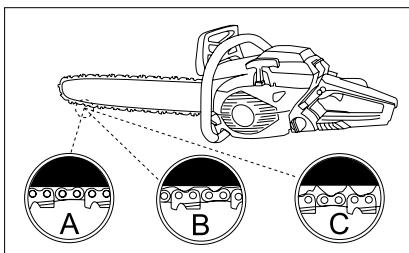

Fig. 10
The cogwheel, tire, chain, and crankshaft will wear much faster if the chain is too loose or too tight. Look at fig. 10, which shows the correct tension for a cold chain (A), a warm chain (B), and a chain whose tension needs to be adjusted (C).